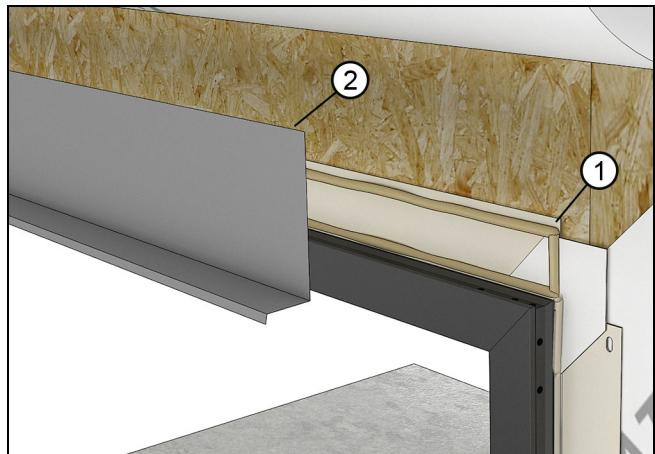

Figure 43
2. Install a rigid head flash. Seal both horizontal and vertical legs of the rigid head flash. See Figure 43.